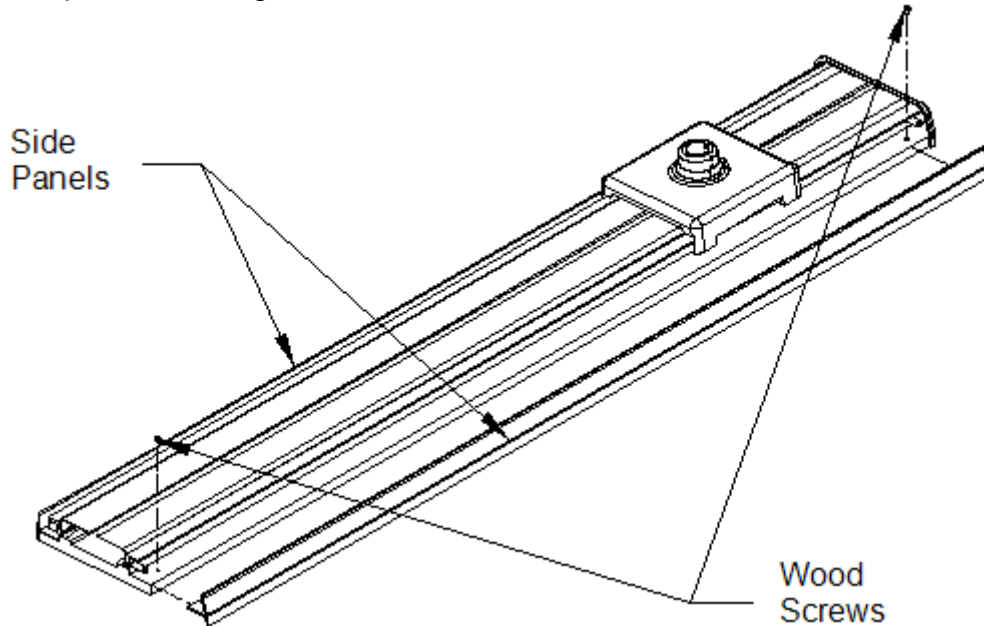

Figure 27. Side Panel Removal
- Take off the two side panels P/N 1001516 by removing the two (2) #10 wood screws at the end of each panel. See Figure 27. Side Panel Removal.